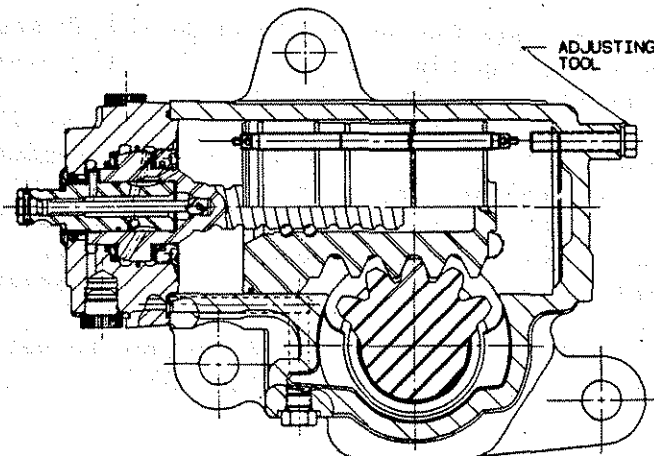

FIG 3. MISADJUSTED POPPETS
6. If pressure is above 1200 psi, the poppets may have been incorrectly set before hand. To set them now will require using a special "Adjusting Tool Kit" (fig 3) as follows: